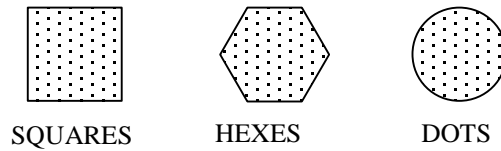

Figure 11 A magnified view of the patterns inside the various apertures.
5.2 In this activity you will pass the laser beam through the apertures SQUARES, HEXES and DOTS found under PATTERNS on the SINGLE SLIT SET. These apertures have the shape of a square (4 sides), hexagon (6 sides) and circle respectively and are uniformly filled with dark dots. See Figure 11 for a magnified view of these apertures and the patterns.